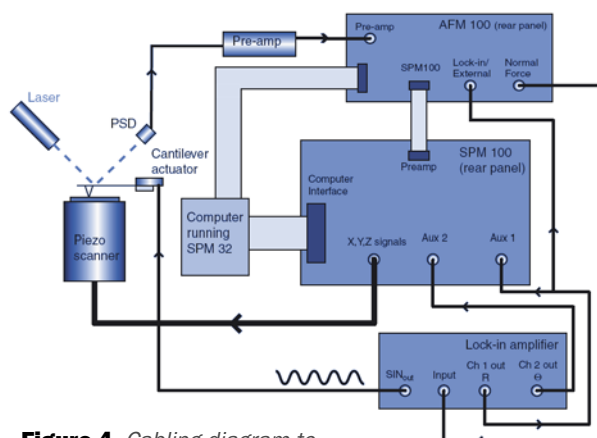

Figure 4. Cabling diagram to perform intermittent contact measurements with RHK equipment.
3. Imaging Conditions_ It is a simple transition from contact to IC mode imaging. In addition to the SPM 100 and AFM 100 electronics, a lock-in amplifier is required and its signal may have to be attenuated before inputting into the feedback electronics. The connection is illustrated in Figure 4. This lock-in amplifier provides complete control of the modulation signal and also superior performance can be achieved compared to other setups which have the lock-in amplifier integrated into the SPM control electronics. With the freedom to choose any external lock-in amplifier, a high quality unit can be used which provides both a greater bandwidth of exciting frequencies and a more sensitive response compared to an integrated unit whose specifications may not even be fully published.